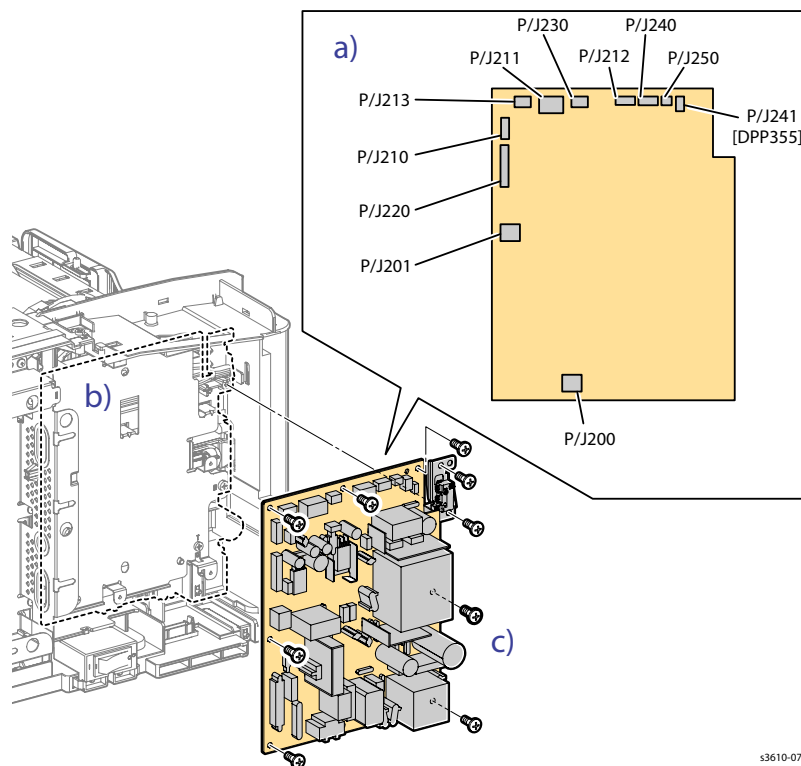

Figure 1
2. Remove the PWB LVPS. (Figure 1)